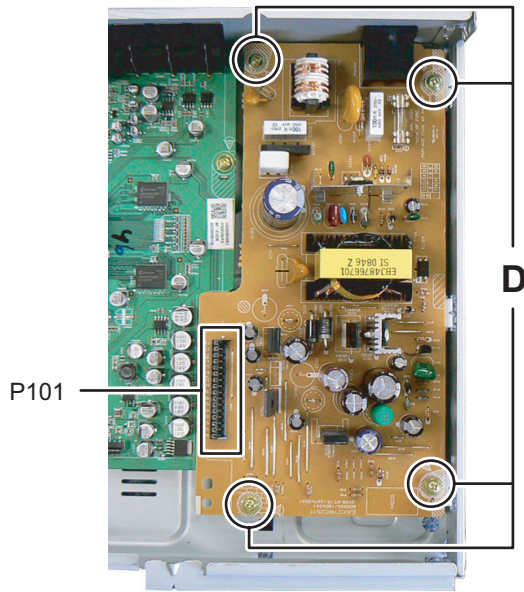

Fig.7
(See Fig.7)
- (3) Disconnect the B-B connector **P101** of the SMPS board from Main board. (See Fig.7)